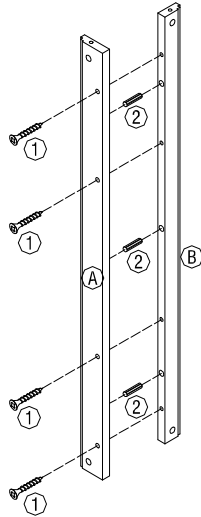

Figure 1
INSERT WOOD DOWELS (2) INTO PREDRILLED HOLES ON EDGE OF UPPER LEFT BACK RAIL (B) AND FIT INTO CORRESPONDING HOLES ON UPPER RIGHT BACK RAIL (A). INSERT FLAT HEAD LONG SCREWS (1) THROUGH PREDRILLED HOLES ON UPPER RIGHT BACK RAIL (A) AND TIGHTEN INTO CORRESPONDING HOLES ON UPPER LEFT BACK RAIL (B). AS SHOWN IN FIGURE 1